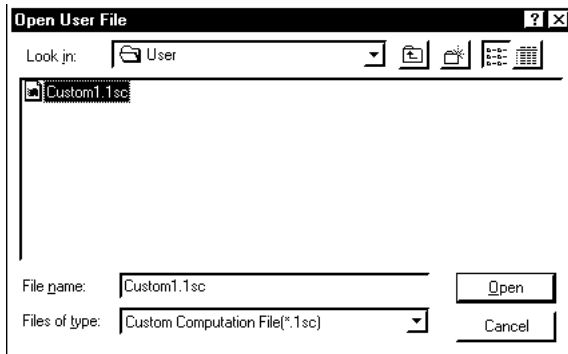

Figure 7.3.1 [Open User File] Dialog Box
- ① From the tool menus, choose <File>, then <Open...>. The [Open User File] dialog box (Figure 7.3.1) appears.
- ③ Click the <Open> button.
- ④ When file reading is complete, the [Custom Computation Configuration Menu/Custom Display Configuration Menu] dialog box appears.